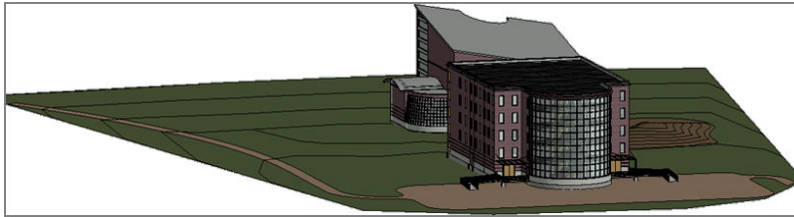

FIGURE 18.11: The sidewalks in 3D
8. Go to a 3D view, and compare yours with Figure 18.11.